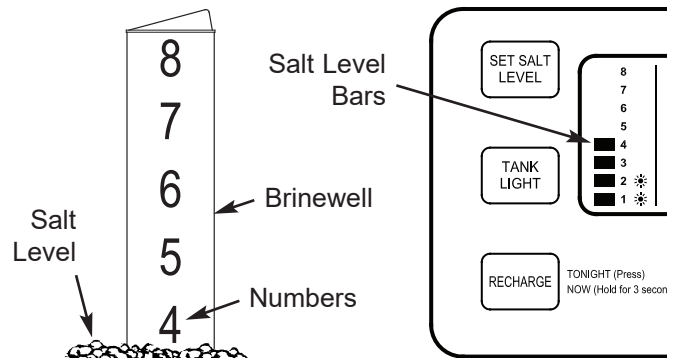

FIG. 27
2. The salt level scale, on the brinewell inside the tank, has numbers from 0 to 8 (see Fig. 27). Observe the highest number the leveled salt is at, or closest to.
3. Press the SET SALT LEVEL button as many times as necessary to make the salt level bars in the display (see Fig. 27) match the number on the brinewell. At level 2 or below, the status light will flash.